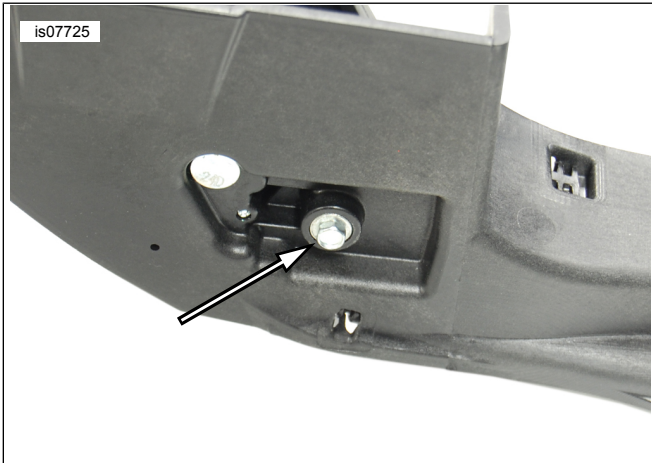

Figure 2. Lever Bolt
- See Figure 2. Install the lever bolt into the latch assembly.